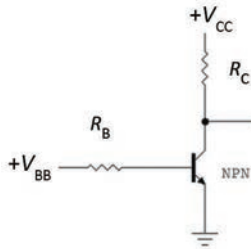

Figure 4.31 Ch 4 – No. 19, self-test
19. What the minimum value of input voltage is required to saturate the BJT in Figure 4.31, if the BJT has the following values: R_1 is $2 \text{ k}\Omega$, R_2 is $60 \text{ k}\Omega$, V_{BB} is 6 V , V_{CC} is 15 V , and β_{DC} is 100 ? (Assuming a silicon transistor)